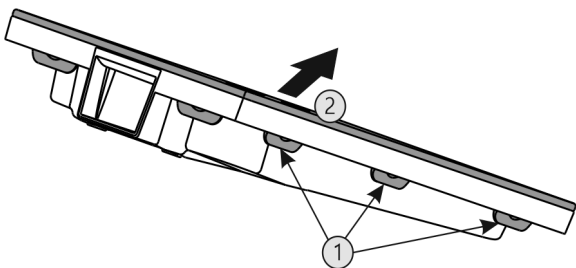

Fig. 56
- ▶ Press all lugs Fig. 56 (1) one after another and remove the cover Fig. 56 (2).